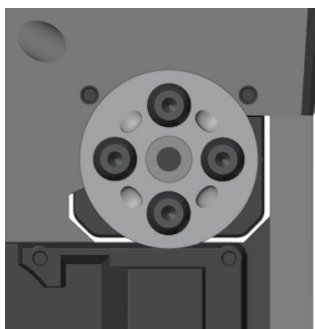

Figure 5.66:
5. Place the spooler on the relative servomotor and fix it with 4 M3 bolts (figure 5.66)